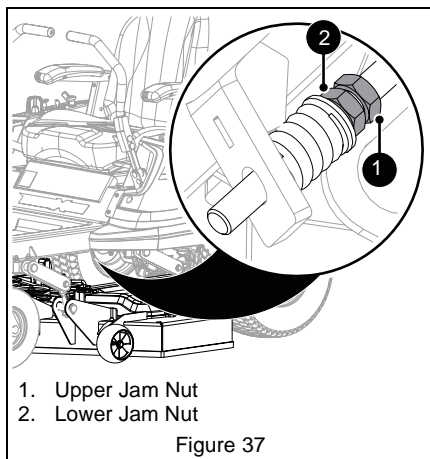

Figure 37
3. See Figure 37. Loosen upper jam nut and adjust lower nut up or down until brake lever functions correctly.